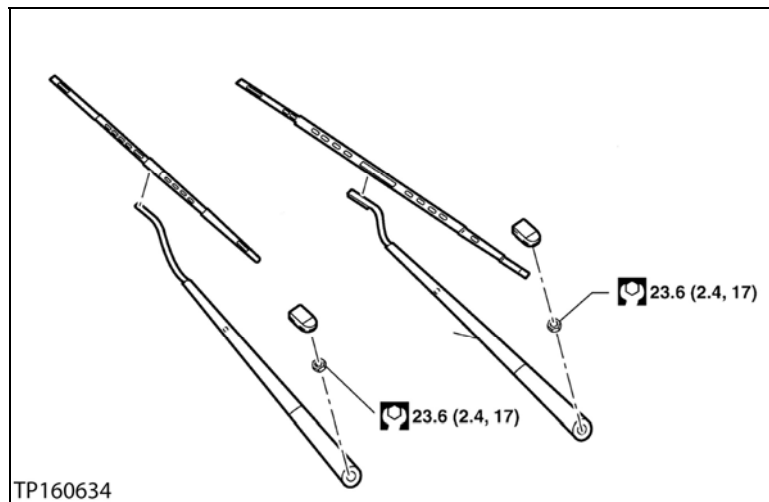

Figure 115
- f. Install the wiper arms with nuts and covers (see Figure 115).